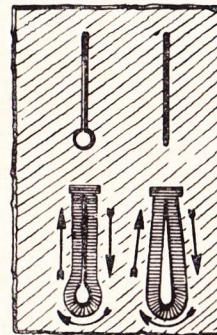

fig. 34
- 13) Set the index of the zig-zag width control knob A to the right (smaller zig-zag width) and start stitching. The arrows in the illustration Fig. 34 show the directions to follow in stitching the row all around the buttonhole.